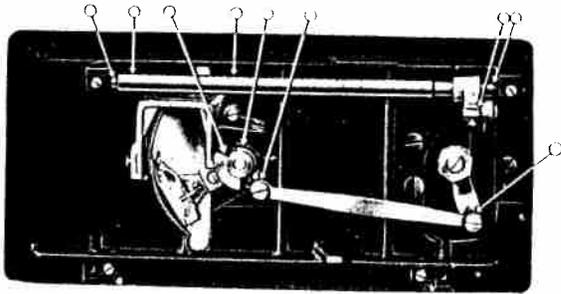

Fig 19
4. The Shuttle Carrier (Fig. 19, page 18), after raising the needle bar to its highest, removing the shuttle, throwing the strap from the bandwheel, and tilting the head to the back.